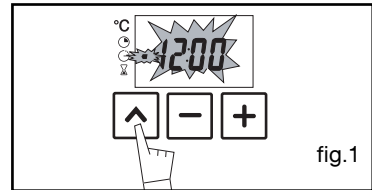

fig.1
The time display flashes to indicate that you can now adjust the setting (fig. 1).
- Press the “^” (fig.1) button until the timer symbol begins to flash  → 0.00 flashes.